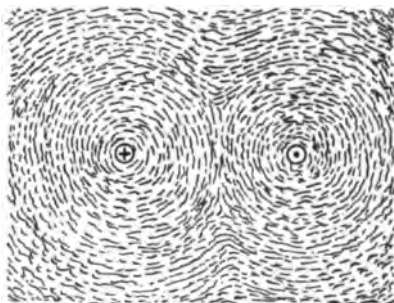

Fig. 14. Field about a Coil
**Lines of Magnetic Force.** Punch another hole through the cardboard and rearrange the circuit of the dry cells so that the wire passes from the positive battery terminal up through one hole of the cardboard and down through the other hole to the zinc or negative. Scatter the filings as before and touch the loose end of the wire to the negative terminal. The arrangement of the filings will then be that shown in Fig. 14, the positive field being at the left and the negative at the right. The fact that the magnetic fields overlap in the curious alignment indicated is simply due to the proximity of the conductors carrying the current.